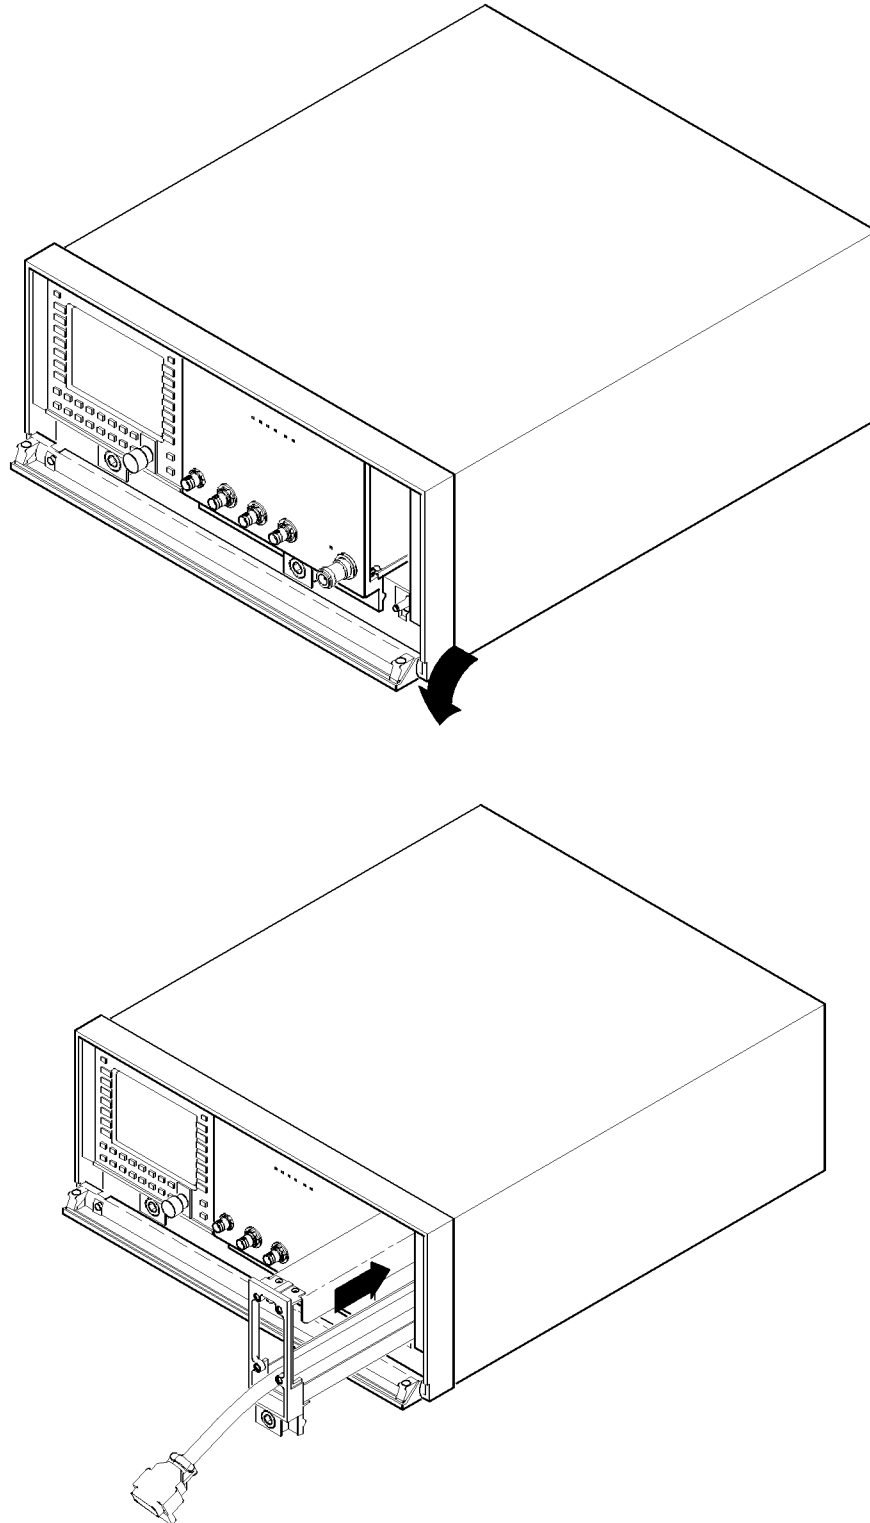

Figure 2-4. Installing the Extender Module
3. If you have an extender module installed, remove it. (Extender module is shown in Figure 2-4.)
2. Flip down the retaining door on the mainframe as shown in Figure 2-4.
3. Install the Extender Module as shown in Figure 2-4.
2. Remove W4 from A3J1. (See Figure 2-4).